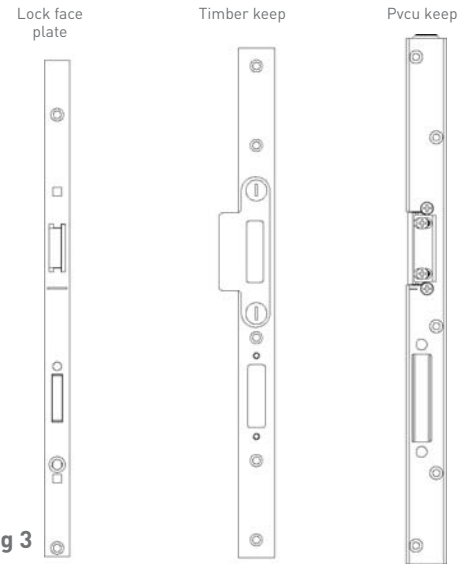

Fig 3
- Winkhaus full length keep sets are self-aligning so if correctly installed should not need moving up or down. However, a visual check of alignment is as below. The centre line of the lock face-plate should correspond with the line directly below the latch strike on the PVCu keep or in line with the strike on timber / composite keep. See Fig 3.